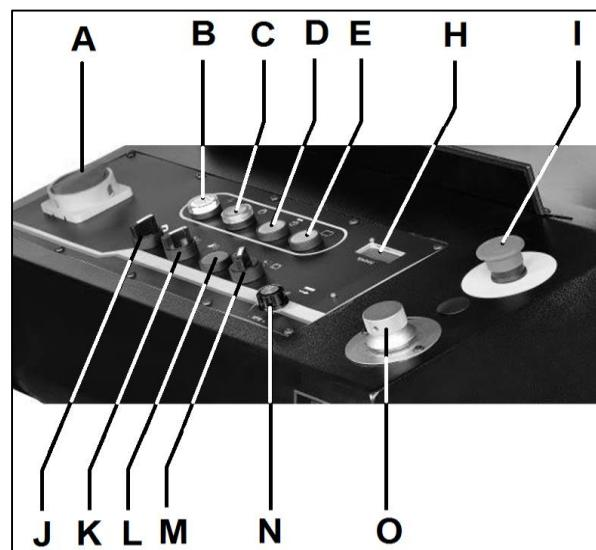

Figure 7-1: Machine Controls
- If the blade gets stuck in the cut, press the emergency stop button (I, Fig 7-1) immediately to switch off the machine. Open the vice slowly, remove the part and check that the
Rotate knob (N, Fig 7-1) to set the blade speed.
Connect the machine to power source. Turn the main switch (A, Fig 7-1) on. The power lamp (B) will be lit.
1. Press button (C) to start the hydraulic pump.
**Note:** If the hydraulic pump fails to start, or if pump starts but saw bow does not go up when selected by switch (J), that means that pump motor is running wrong direction. Change two of the phases.